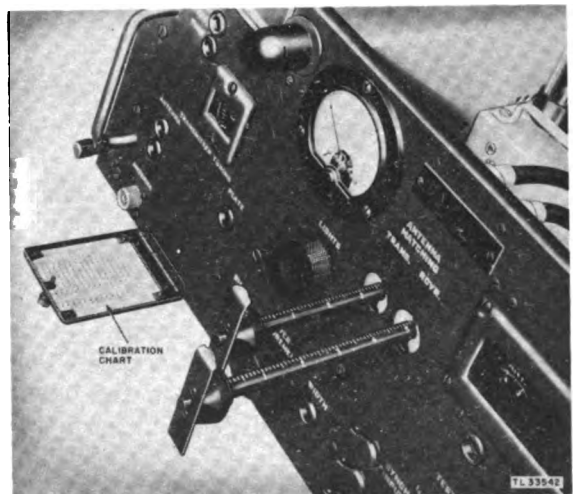

Figure 77. Calibration chart and antenna-matching section adjusting rods.
c. Pull out the antenna-matching section handles (fig. 77) until the rods are engaged. Set the rods to the positions corresponding to the desired frequency (par. 72a).